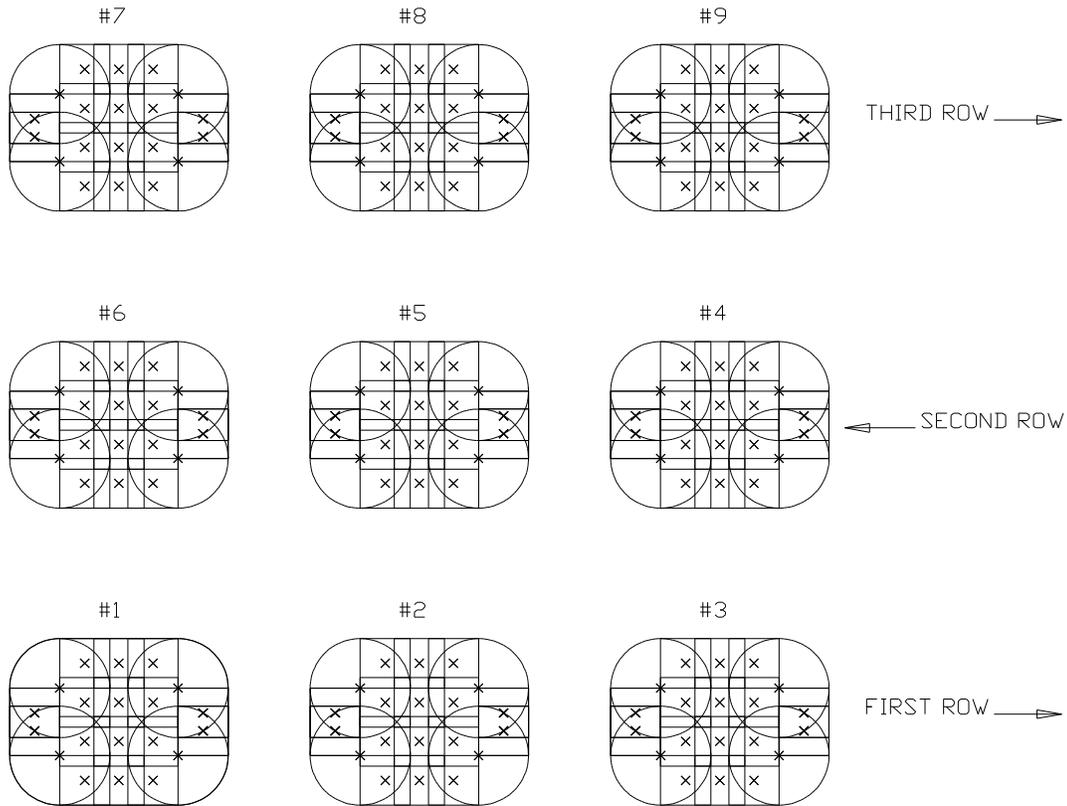

Figure 1-18 Multiple Parts Example
1. The rows and columns of parts will be generated in a pattern as shown in figure 1-18. Starting at the first part, and proceeding along the -X- direction for one row, moving up (or down) the -Y- distance, and now generating parts in the opposite -X- direction as the last row.